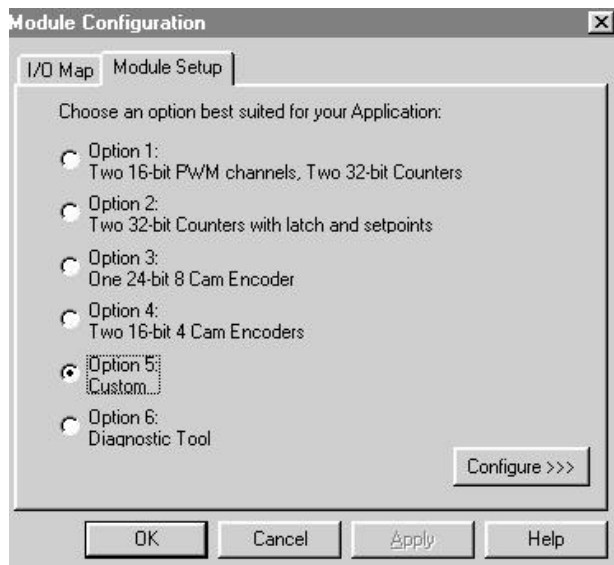

Figure 7.1 – Option 5 Configuration Screen
2. After performing the initial configuration procedures described in Chapter Two, the following screen appears (Figure 7.1): Press **Configure**.